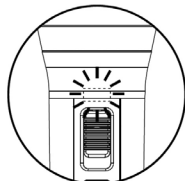

Figure 5
2. The microphone's LED will illuminate, indicating the frequency is being transmitted to the receiver and that the receiver is synchronizing channels with the microphone (Fig 5).